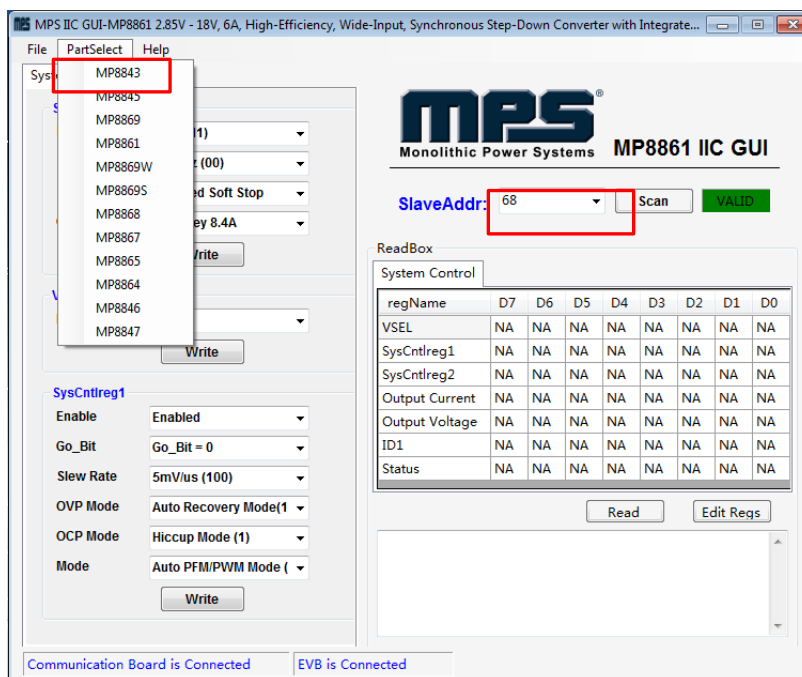
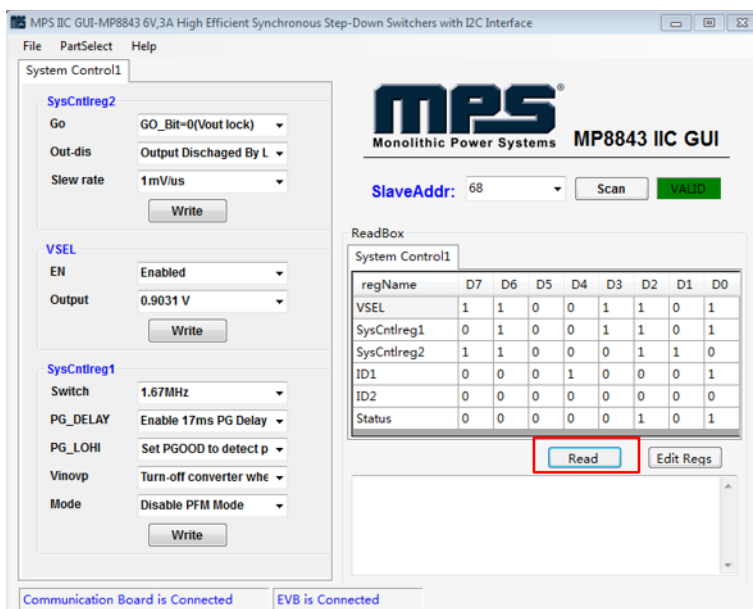

Figure 7: Appearance of Address Shows Successful Connection
Figure 9: Values from I2C Shown in Table
- If the connection is successful, the address will be listed in the “Slave Address” (see Figure 7).
- 2) “Device is not available. Please check the Connection!” This means that the USB I2C communication interface is not connected (see Figure 9).
- Click the **PartSelect** button to select the MP8843 (see Figure 7) (The default GUI window is for the MP8861). The Register Control menu will appear on the left side. I2C register values will be read and displayed on the right side after clicking **Read** button (see Figure 9).